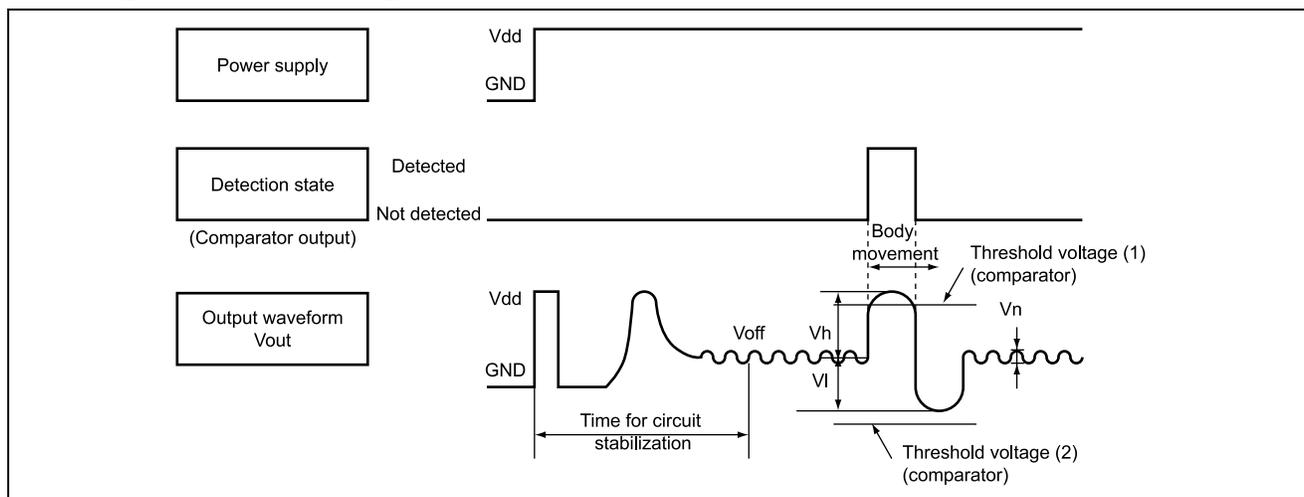

Figure 1.2 Timing Chart
B. Figure 1.2 shows the timing chart of the NaPiOn (AMN21112).